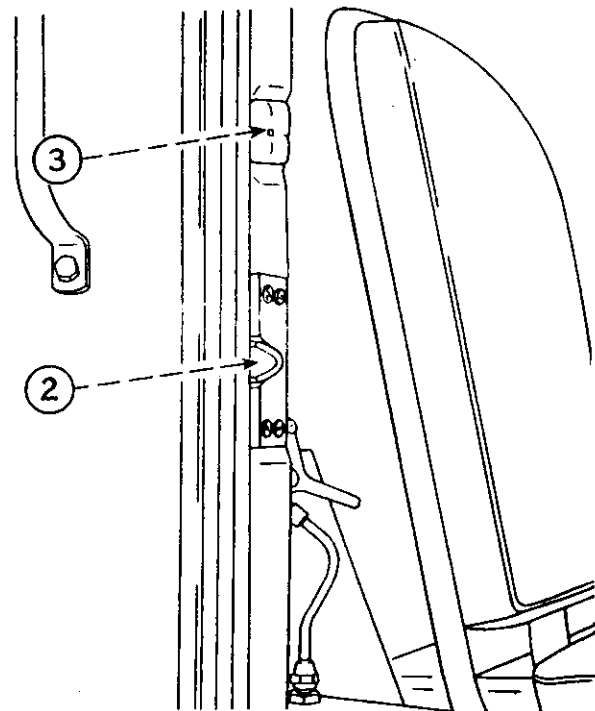

FIG 24 - DOOR PILLAR
- b. Similarly the door lock striker plate (item 3, fig 24) can be adjusted horizontally.